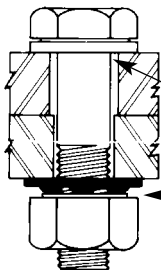

Figure 6b
*With a short-slotted or oversized hole under the bolt head or nut, add a hardened flat washer, and, if the bolt is an A490 and larger than 1" the hardened washers must be at least 5/16" thick. For a long-slotted hole, an external cover plate of sufficient size to completely cover the slot should be provided. (Figures 6b and 6c) See Table 6.1 of the RCSC Specification for detailed washer requirements.*